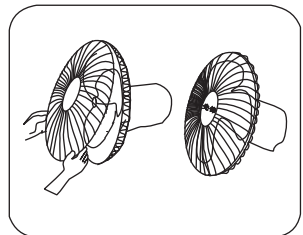

Figure 6
7. To attach the front grill to the back grill, you should use the grill ring carefully to hold them together and fasten the grill ring with the screw provided. (See Figure 6)